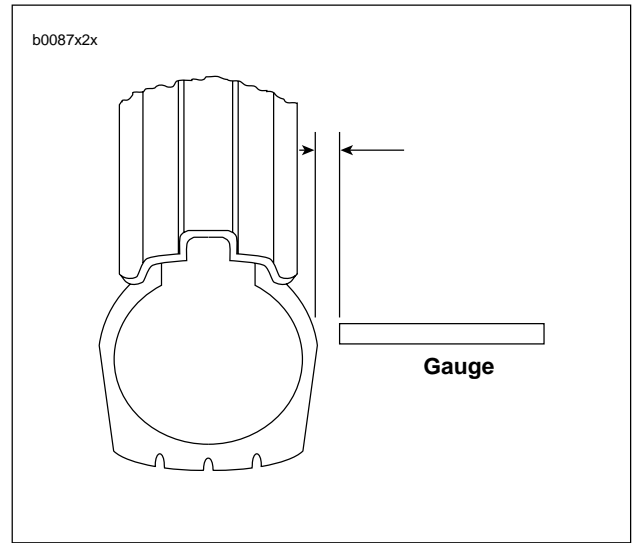

Figure 2-30. Checking Tire Lateral Runout
1. See Figure 2-30. Turn wheel on axle and measure amount of displacement from a fixed point to tire side-wall.